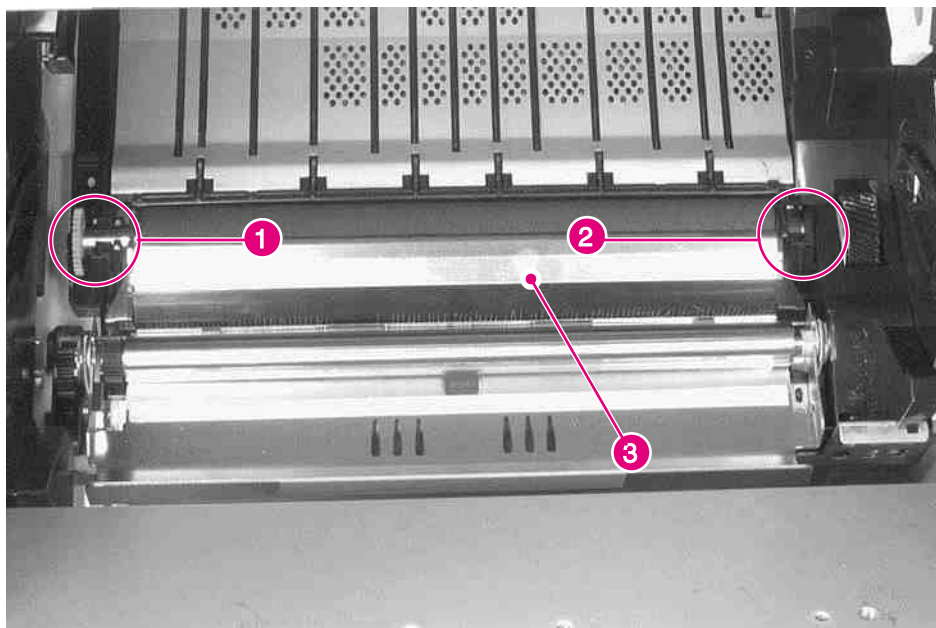

Figure 6-62 **Transfer Roller Assembly**
- 2 Grasp the gear (figure 6-62, callout 1) on the left end, and carefully lift upward just enough to clear the retainer clip.
- 3 Slide the Transfer Roller Assembly to the left to release the shaft on the right end (figure 6-62, callout 2).
- 2** Hold the Transfer Roller wiper up (figure 6-62, callout 3) and slide the assembly to the right until the gear on the left end is in position.
- 4** Press the Transfer Roller wiper down (figure 6-62, callout 3) until the retaining clips snap into place.